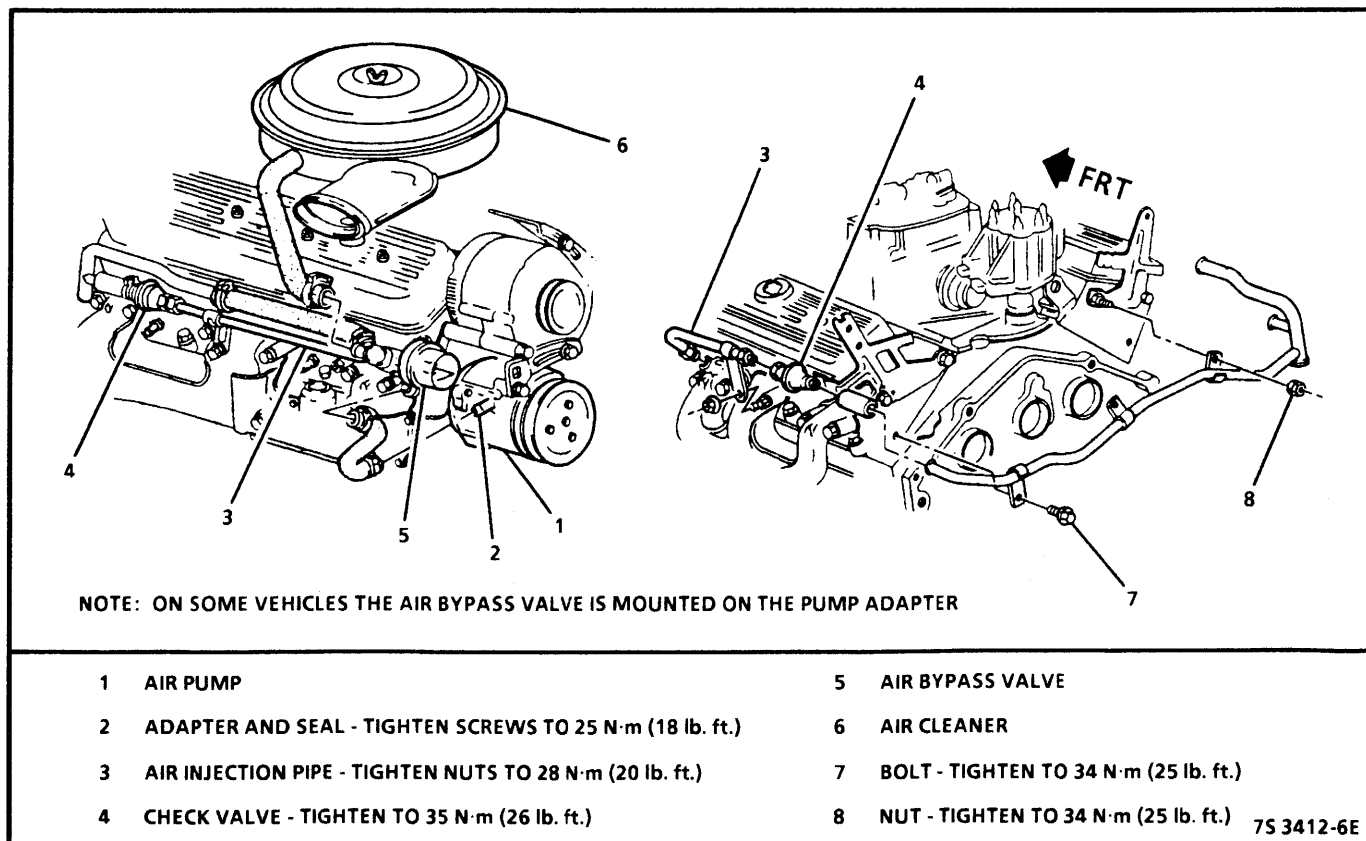

Figure 8-5 - Air System 5.7L - "C/K" Series
5. If required, insert needle nose pliers and pull filter fan from hub. Refer to Figure 8-5.
## AIR CONTROL VALVE Figure 8-5